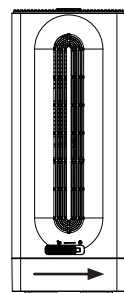

Figure 1
2. Before removing the condensate tank, disconnect the dehumidifier. Slide the catch located on the sides of the instrument to the side, as shown in Figure 1.